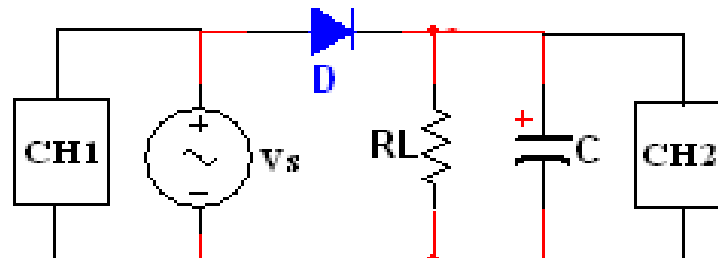

Figure 17: Filtered Half-wave Rectifier.
- 1- Construct the circuit shown in Figure 17.
- 3- Use the Oscilloscope to measure the **Ripple Voltage V_r** from Ch2, use DMM to measure the **Average Voltage (V_{avg})**. Calculate **Ripple Factor (RF)** and sketch the Oscilloscope screen on the respective grids in Table 1.